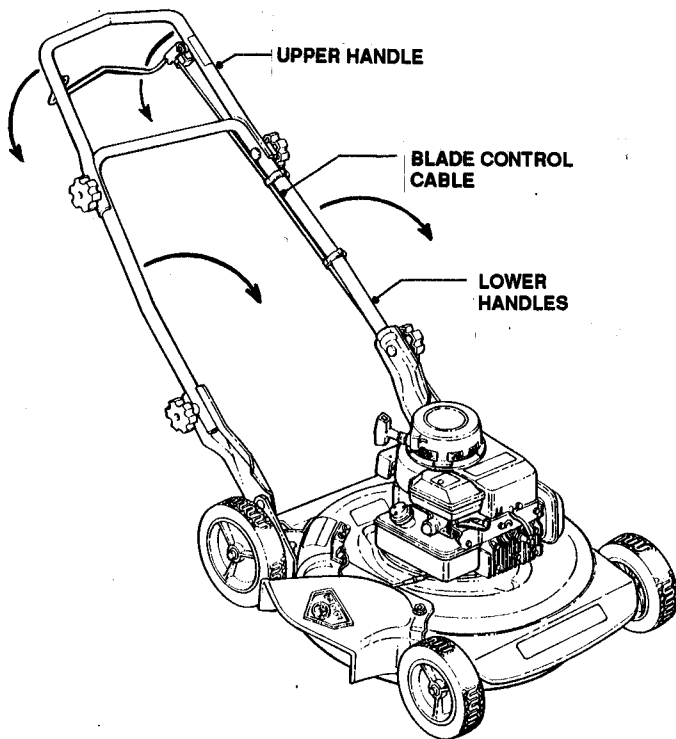

FIGURE 10
Handles may be folded for storage. To fold handles, loosen all four (4) knobs, push lower handles forward over mower, then pull upper handle back over mower. Use care not to "kink" the Blade Control Cable. See Figure 10.